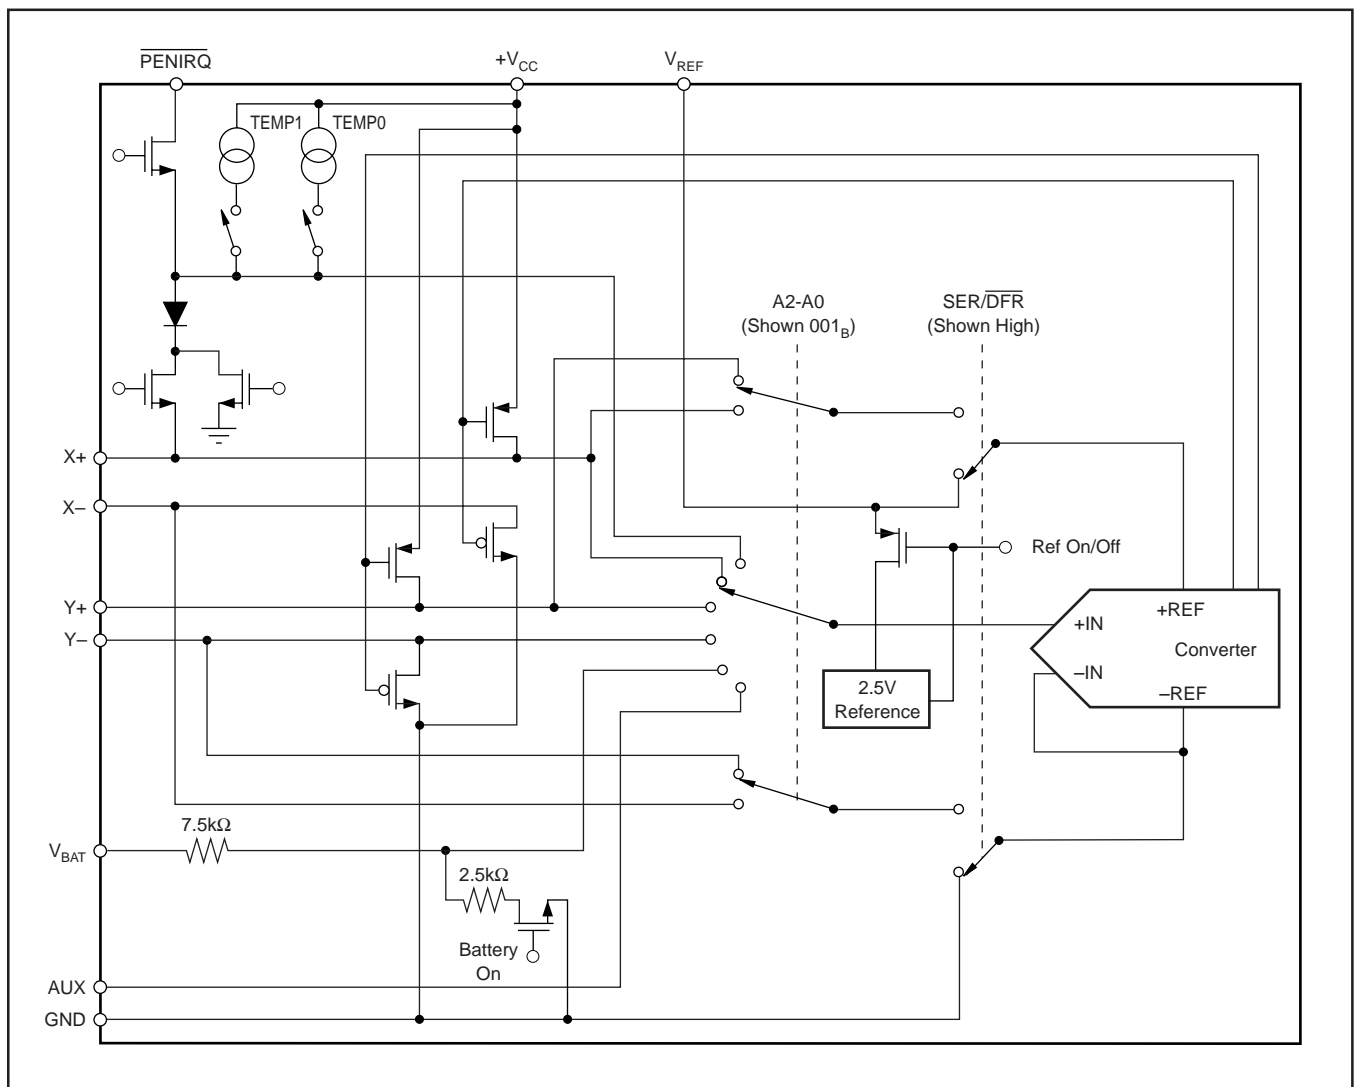

FIGURE 2. Simplified Diagram of Analog Input.
See Figure 2 for a block diagram of the input multiplexer on the ADS7846, the differential input of the ADC, and the differential reference of the converter. Table I and Table II show the relationship between the A2, A1, A0, and SER/DFR control bits and the configuration of the ADS7846. The control bits are provided serially via the DIN pin—see the Digital Interface section of this data sheet for more details.
When the converter enters the hold mode, the voltage difference between the +IN and -IN inputs (see Figure 2) is captured on the internal capacitor array. The input current into the analog inputs depends on the conversion rate of the device. During the sample period, the source must charge the internal sampling capacitor (typically 25pF). After the capacitor has been fully charged, there is no further input current. The rate of charge transfer from the analog source to the converter is a function of conversion rate.
The voltage difference between +REF and -REF (shown in Figure 2) sets the analog input range. The ADS7846 operates with a reference in the range of 1V to +VCC. There are several critical items concerning the reference input and its wide voltage range. As the reference voltage is reduced, the analog voltage weight of each digital output code is also reduced. This is often referred to as the LSB (least significant
**Addressing**—The next three bits (A2, A1, and A0) select the active input channel(s) of the input multiplexer (see Tables I, II, and Figure 2), touch screen drivers, and the reference inputs.
**SER/ $\overline{DFR}$** —The SER/ $\overline{DFR}$  bit controls the reference mode, either single-ended (high) or differential (low). The differential mode is also referred to as the ratiometric conversion mode and is preferred for X-Position, Y-Position, and Pressure-Touch measurements for optimum performance. The reference is derived from the voltage at the switch drivers, which is almost the same as the voltage to the touch screen. In this case a reference voltage is not needed, as the reference voltage to the ADC is the voltage across the touch screen. In the single-ended mode, the converter reference voltage is always the difference between the  $V_{REF}$  and GND pins (see Tables I and II, and Figures 2 through 5 for further information).